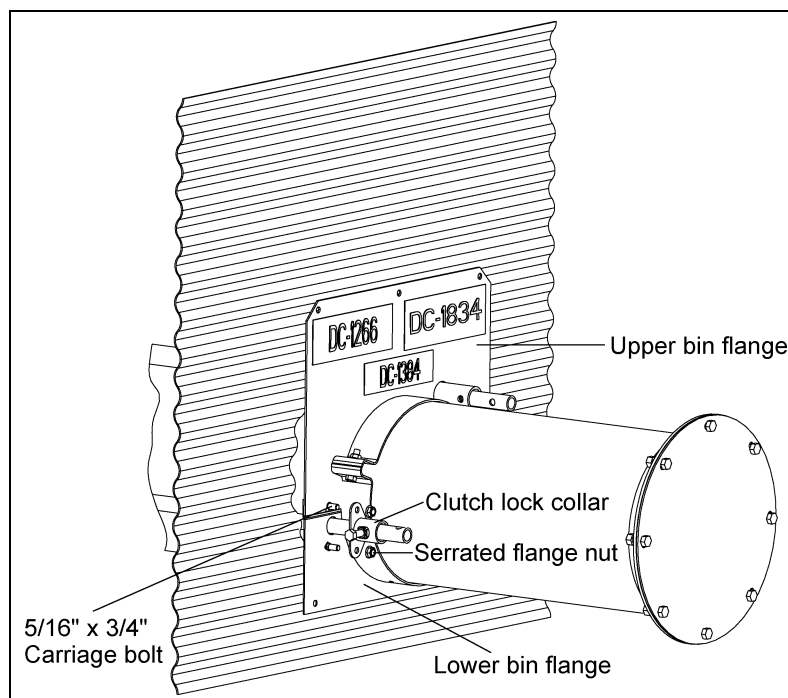

Figure 4L
2. Next, install the clutch lock collar to the lower bin flange using two (2) 5/16" x 3/4" carriage bolts and serrated flange nuts. Install the bolt heads on the backside of the lower bin flange so they will be next to the bin wall when the flanges are attached to the bin. (See Figure 4L.)